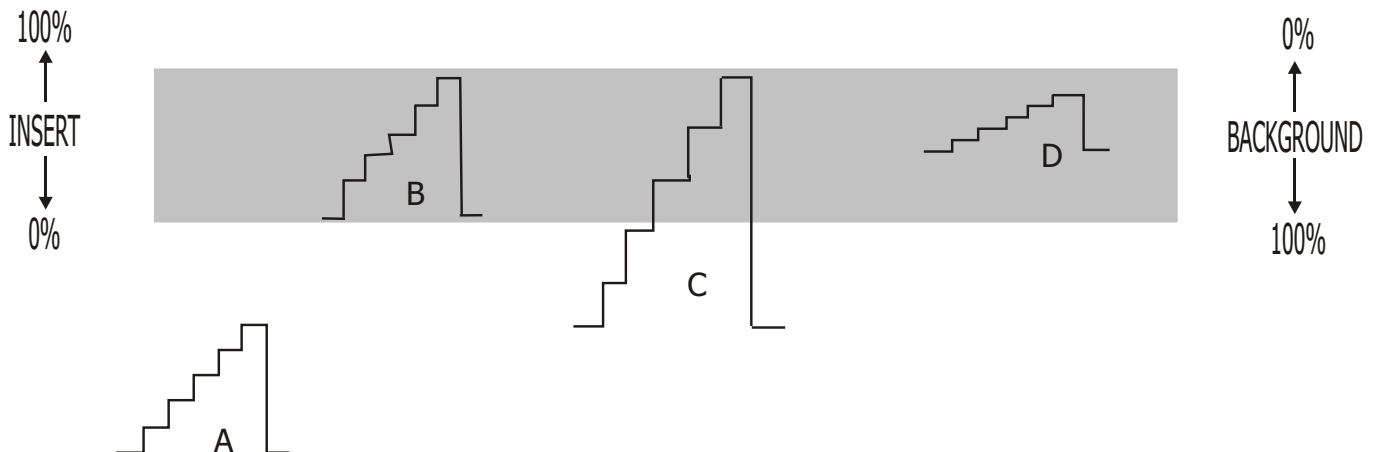

FIG. 1
To graphically explain the MASTERKEY system let us visualize the shaded area in Fig. 1 as representing the control zone of the wideband multiplier. The background (program) video is fed to one input of the multiplier circuit and the insert video is fed to the second input. The key input is an unmodulated 5 step (A). Note that with no signal appearing in the control zone the multiplier output will be 100% background video and 0% insert video.